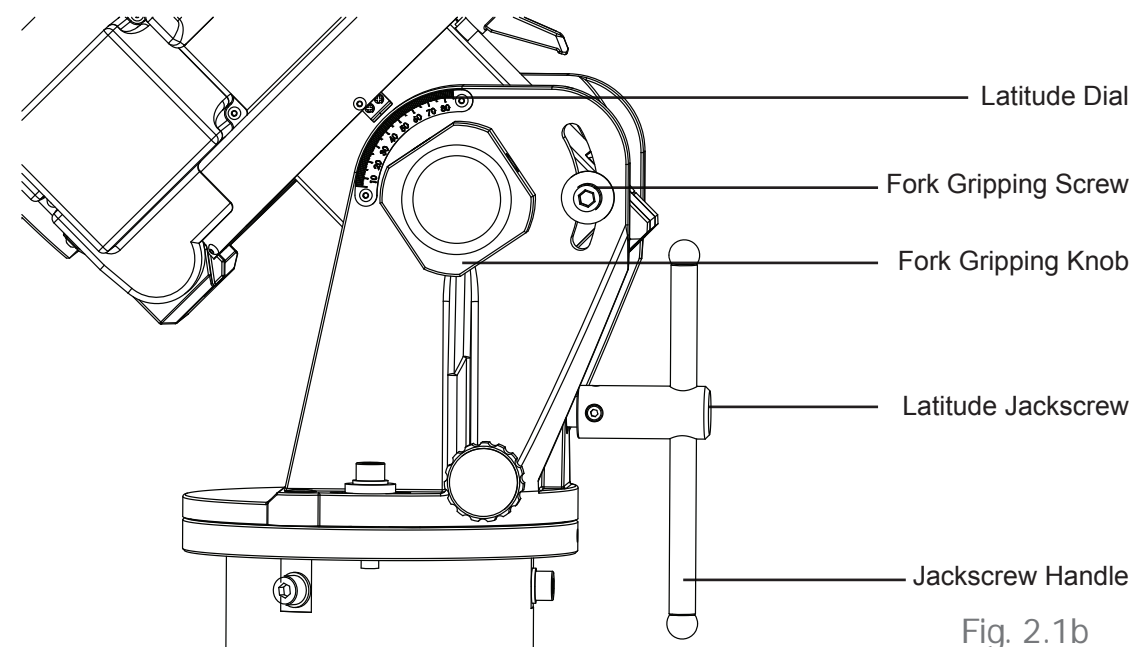

Fig. 2.1b
3. Loosen the fork gripping knobs and screws (Fig 2.1b) on both sides of the EQ8 mount, and then tighten them slightly.
6. Install the handle on the jackscrew and use the altitude jackscrew to set the latitude dial reading local latitude (Fig 2.1b).